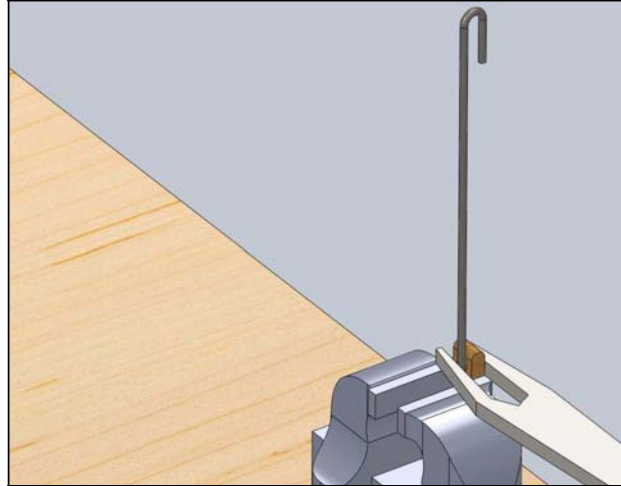

Figure 6: Bend #2- Position the rod so that that Bend #1 and Bend #2 will be in the same plane.
- B. Make sure **Bend #1** is in the correct orientation with respect to the die as shown in Figure 6.